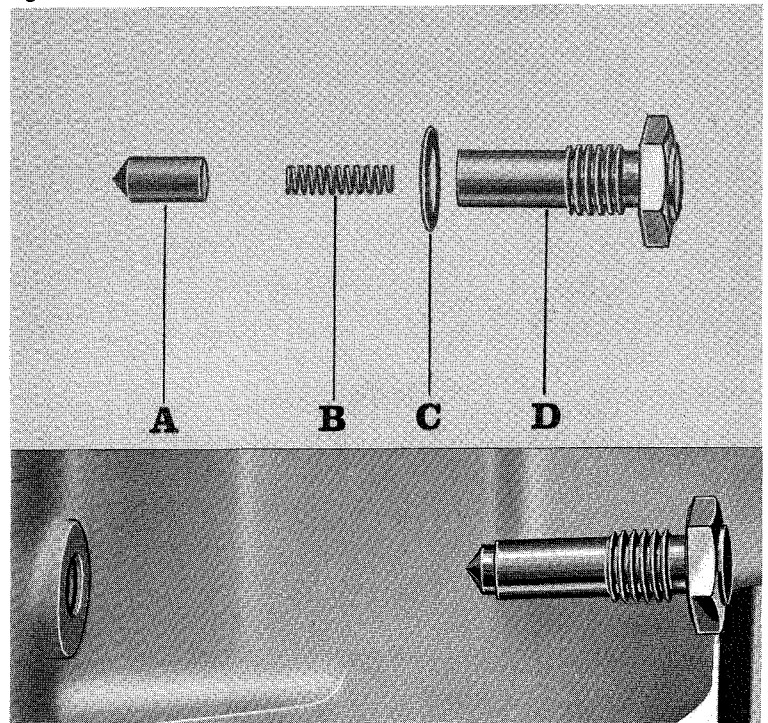

Fig. 29
29. Fit the shifting drum ratchetsleeve in position. See Fig. 29.